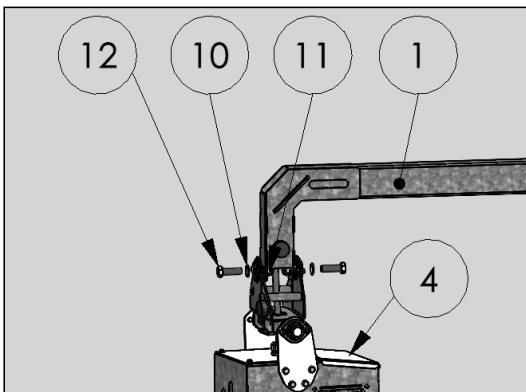

Figure 4: Mounting the brush with the drive unit.
2. Screw the drive unit (Item 4, Fig. 4) using the screws (Item 12, Fig. 4), washers (Item 10, Fig. 4) and nuts (Item 11, Fig. 4) to the suspension arm (Item 1, Fig. 4). Install the suspension arm, including drive unit, at the determined mounting height